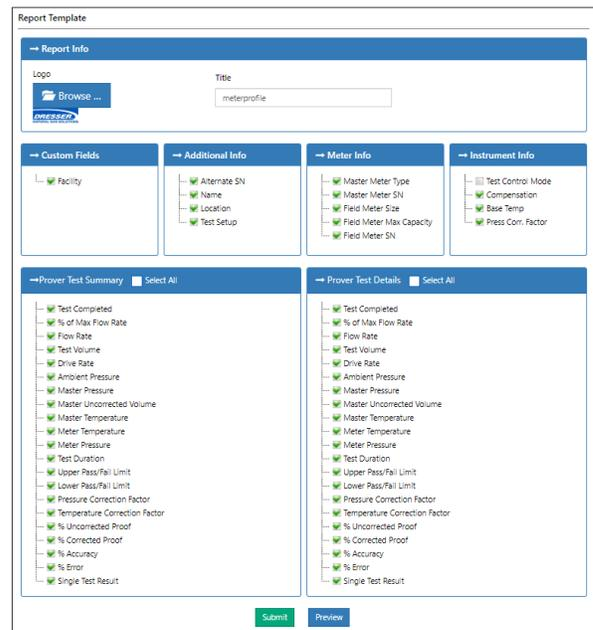

Figure 54: Report Template screen
2. In the Report Template screen (Figure 54), specify the information that is to be included on the report:
You can specify custom fields to provide additional information on the test reports. These fields are displayed in the Save Report section of the Meter Test screen (Figure 42). Control which custom fields are displayed in the report by selecting them in the Report Template screen (Figure 54).